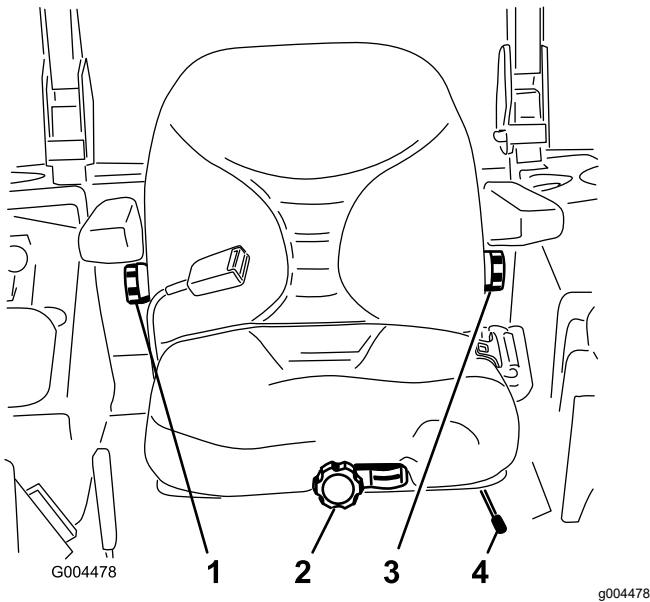

Figure 17
1. To adjust the seat, move the lever sideways to unlock the seat (Figure 17).
To adjust the back of the seat, turn the knob, located under the right-side armrest, in either direction to provide the best comfort (Figure 17).
To adjust the back of the seat, turn the knob, under the left-side armrest, in either direction to provide the best comfort (Figure 17).